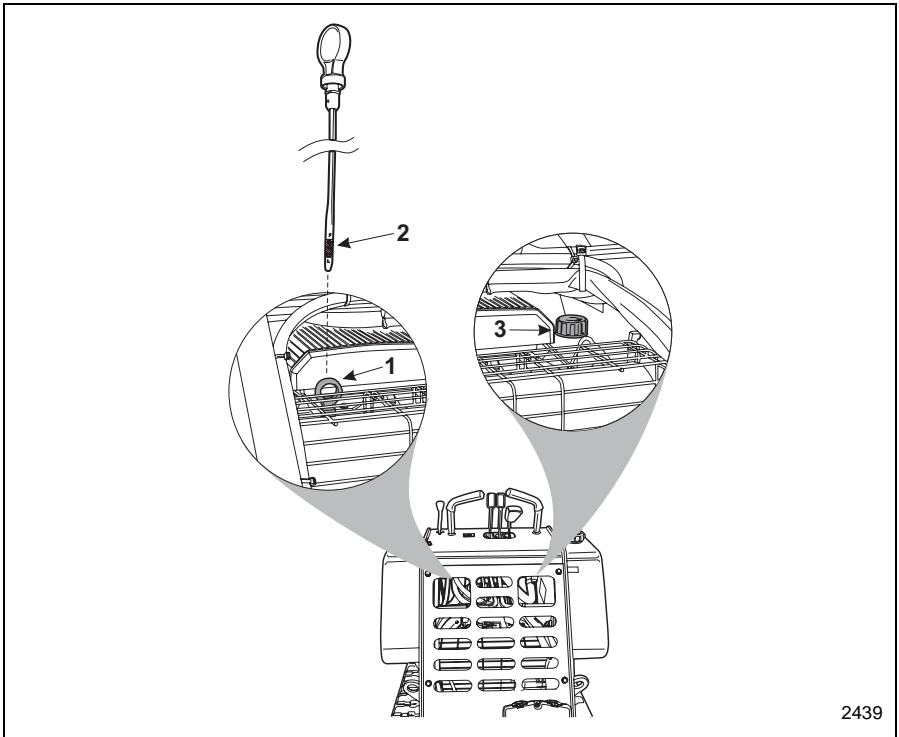

Figure 3-1 Engine Oil Level Check
- Pull out the dipstick (Item 1, **Figure 3-1**) and look for both the full and add oil lines (Item 2, **Figure 3-1**) indicated by the letters "F" and "A". The correct oil level is between those two lines.